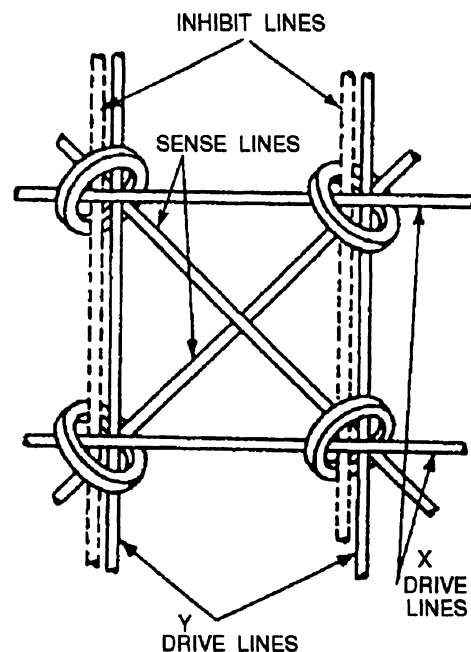

Figure 6-10.—Four-wire magnetic core matrix.
**Matrices.** —Magnetic cores are arranged into matrices to simplify addressing, reading, and writing operations. An example of a basic four-wire magnetic core matrix is shown in figure 6-10. Each core in the matrix must have 2 drive lines (X and Y), an inhibit line, and a sense line intersecting through the center of the core. The most common four-wire core matrix is the 64 by 64 **array**. We base our discussion of matrices on this size.